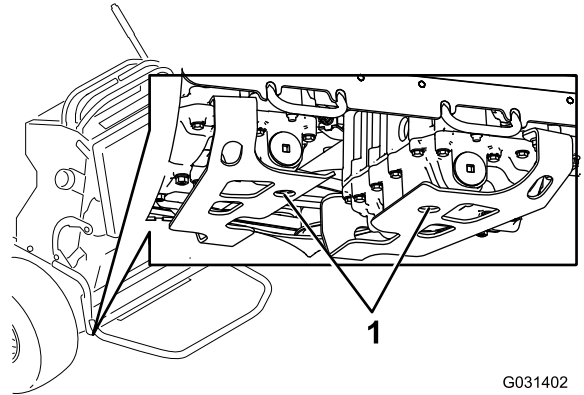

Figure 65
3. Locate the drain plugs in the bottom of the transmission and place a drain pan under the plug (Figure 65).